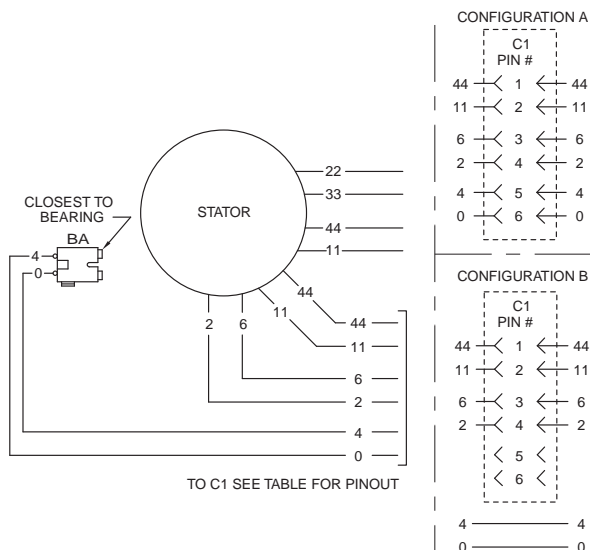

Figure 39. Stator Output Leads
The stator houses a dual power winding and an excitation winding. Coming from the stator there are Eight (8) stator leads as shown in Figure 39.